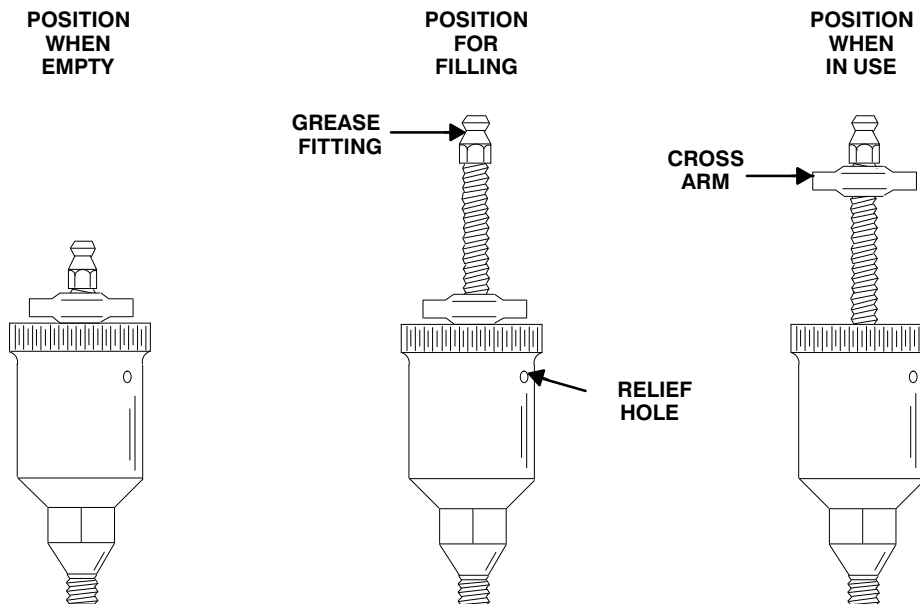

Figure 4. Automatic Lubricating Grease Cup
Before removing the impeller, turn the cross arm on the automatic grease cup (10) clockwise until it rest against the cover (see Figure 4). This will prevent the grease from escaping when the impeller is removed. Remove the grease cup and piping (9 and 10).
with No. 2 lithium base grease until grease escapes from the relief hole. Turn the grease cup arm counterclockwise until it is at the top of the stem; this will release the spring to apply grease to the seal (see Figure 4).